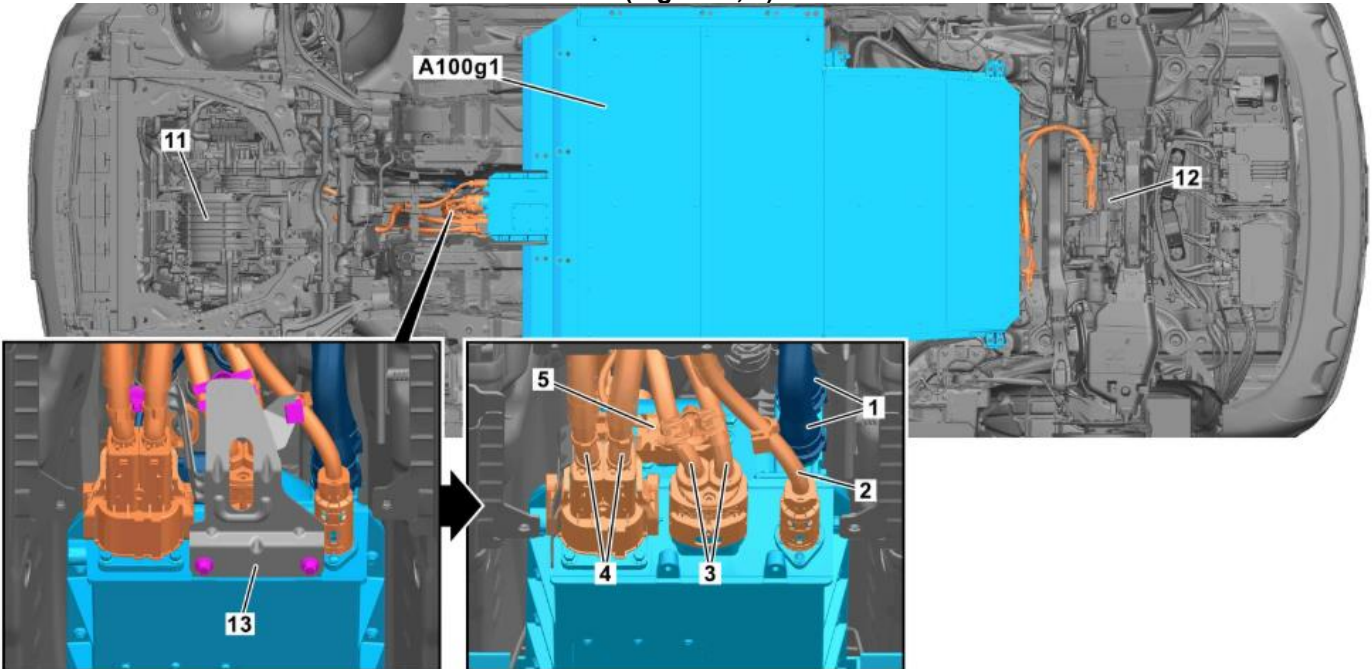

Figure 2
8. Disconnect coolant lines (**Figure 2, 1**) – clamp off hoses as close to HV battery as possible!
10. Open clamps on coolant lines (**Figure 2, 1**) and drain coolant
11. Unclip HV lines at bracket (**Figure 2, 13**) and remove bracket (**13**)
12. Remove HV plugs of HV lines (**Figure 2, 2, 3 & 4**) **AR47.70-P-0005-01EQ**
NOTE: Pay close attention to electrical connector Figure 2, 4. The locking mechanism can break if not fully released and will require the harness to be replaced. This will not be covered under this campaign.
13. Release and disconnect electrical connector (**Figure 2, 5**).
41. Attach high-voltage plugs of high-voltage lines (Figure 2, 2, 3, 4) and torque to specification. **BA47.70-P-1012-01A**